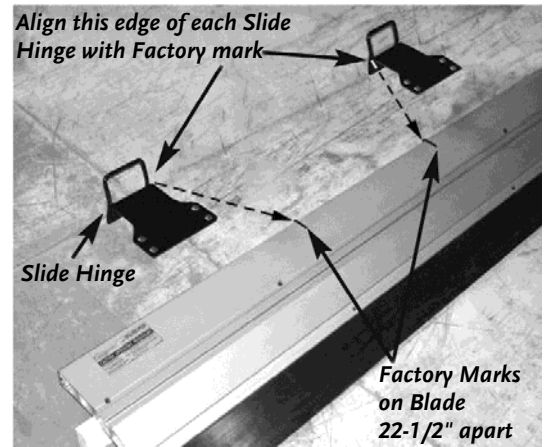
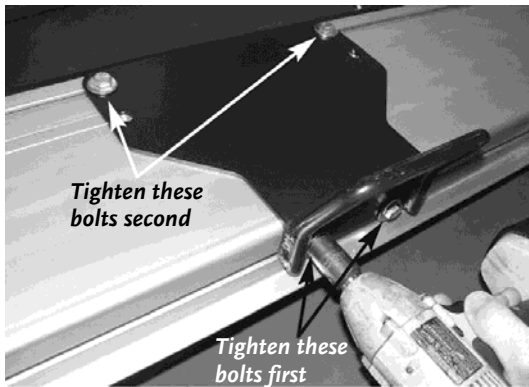

Figure 10
Figure 14
10. Place each side hinge on blade and align edge of hinge with factory mark on blade (**Figure 10**).
14. Make sure slide hinge is lined up with mark (**Figure 10**). Using 9/16" wrench, tighten hex bolts in top section first (**Figure 14**). Then tighten hex bolts on bottom section.